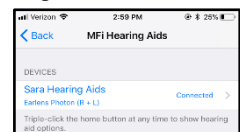

Figure 13
7. When your hearing aids are paired and connected, you will see the word "Connected" (Figure 13).